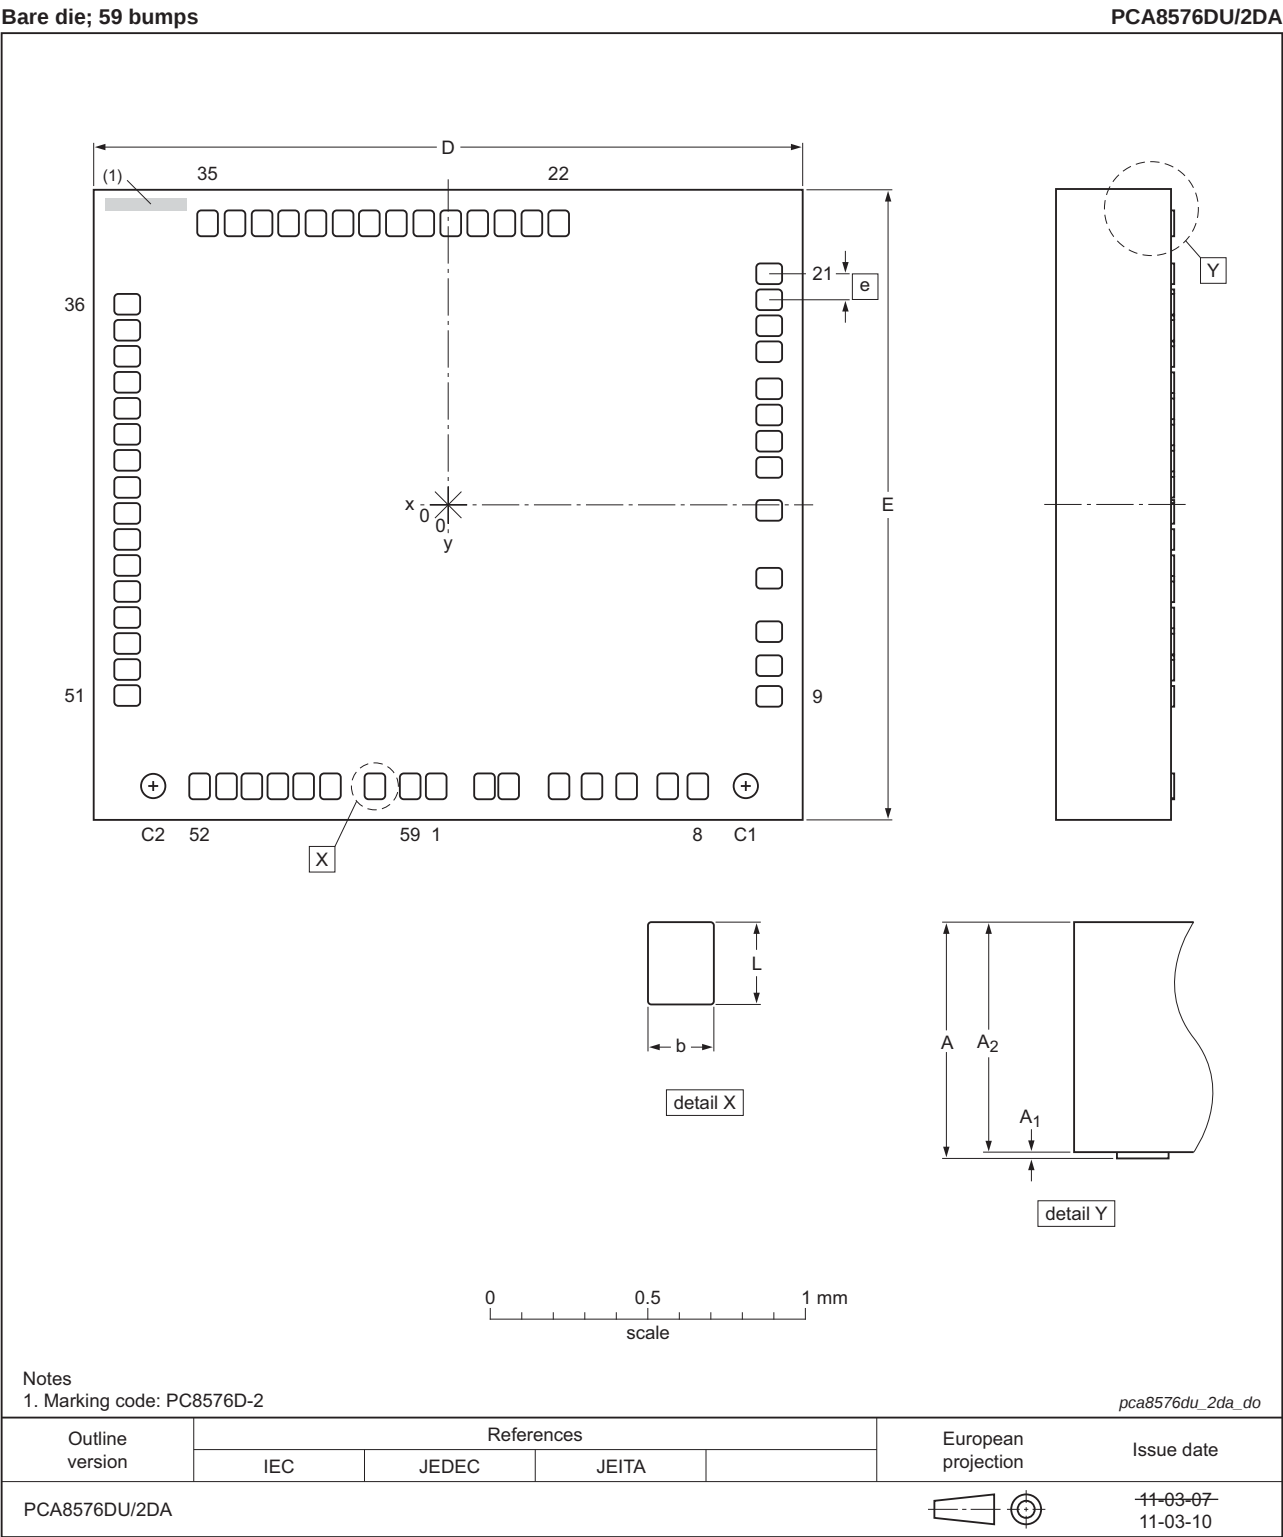

Fig 23. Bare die outline PCA8576DU/2DA/2 (for dimensions see Table 23)
**Table 24. Bump location for PCA8576DU**All x/y coordinates represent the position of the center of each bump with respect to the center (x/y = 0) of the chip (see Figure 2 and Figure 23).
All x/y coordinates represent the position of the center of each bump with respect to the center (x/y = 0) of the chip (see Figure 2 and Figure 23).
All x/y coordinates represent the position of the center of each alignment mark with respect to the center (x/y = 0) of the chip (see Figure 2 and Figure 23).